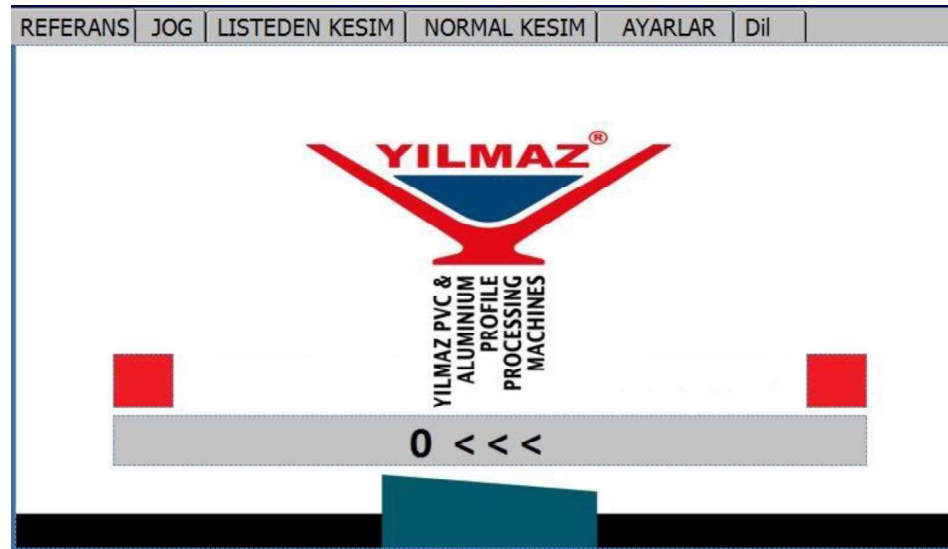

FIGURE 16
7.2.1.2 Press on  in the appeared screen in order to send the tool to reference position (FIGURE 16).